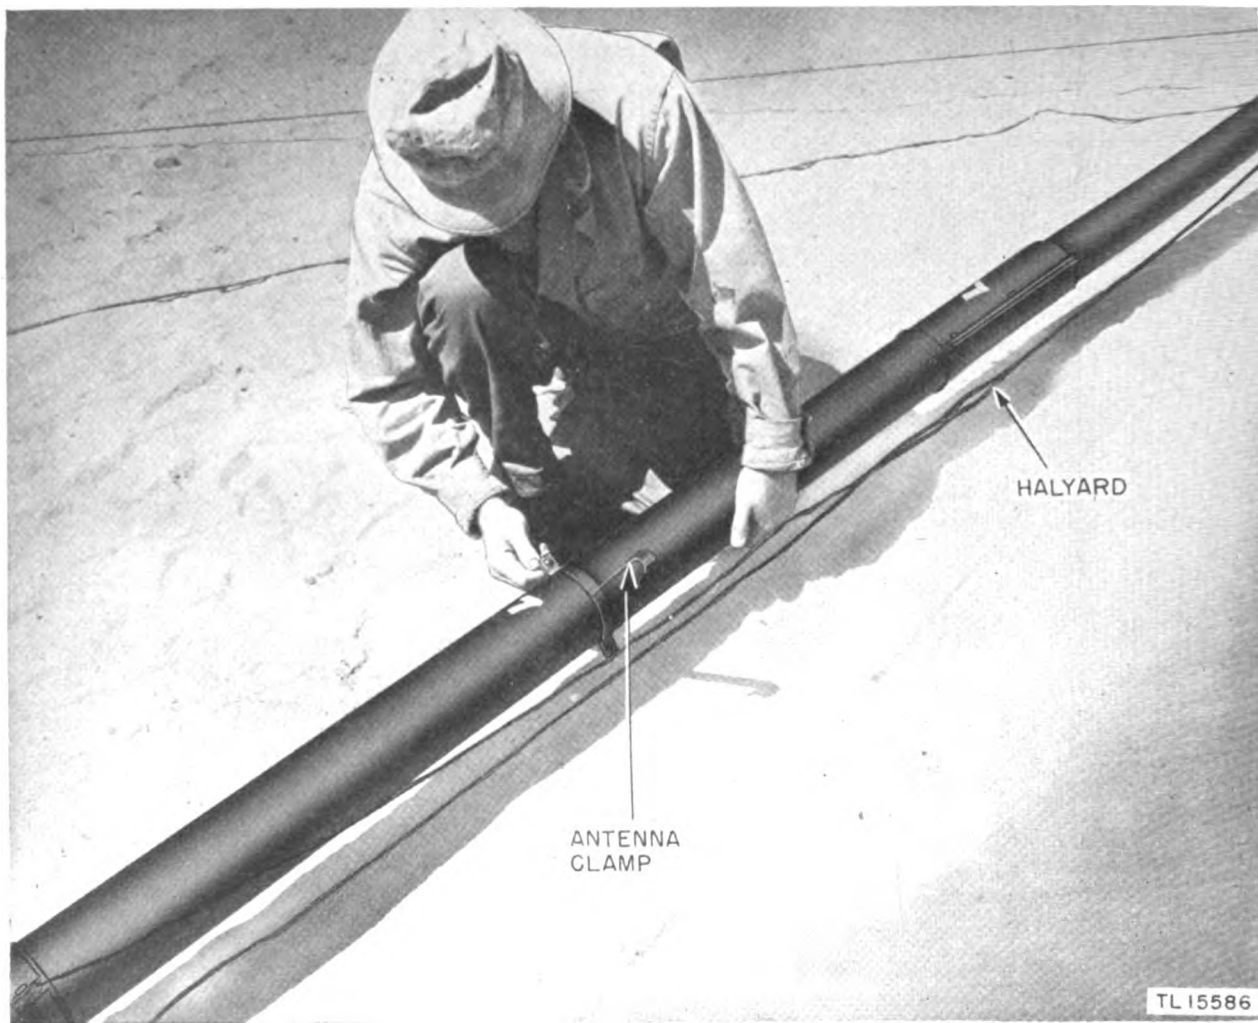

Figure 9. Antenna clamp attachment.
(1) Attach the antenna clamp to the mast at section 7 (fig. 9) near coupling 7.
(2) Pull the halyard through the pulley in the mast head cap assembly, even up the two ends, and fasten to the boat cleat on the mast shoe at the base of the